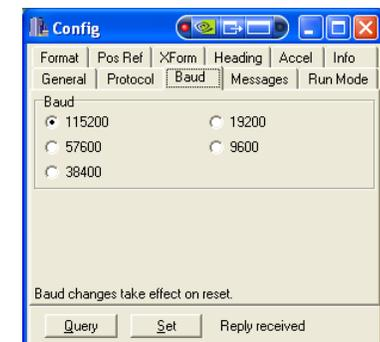

Figure 20. Baud Tab
6.4 Baud - The "Baud" tab (Figure 20) is used to set the communication transfer rate. This rate can be adjusted as needed for wireless communication or lengthy communication cables. The MIDG Display Utility defaults to 115200 baud.